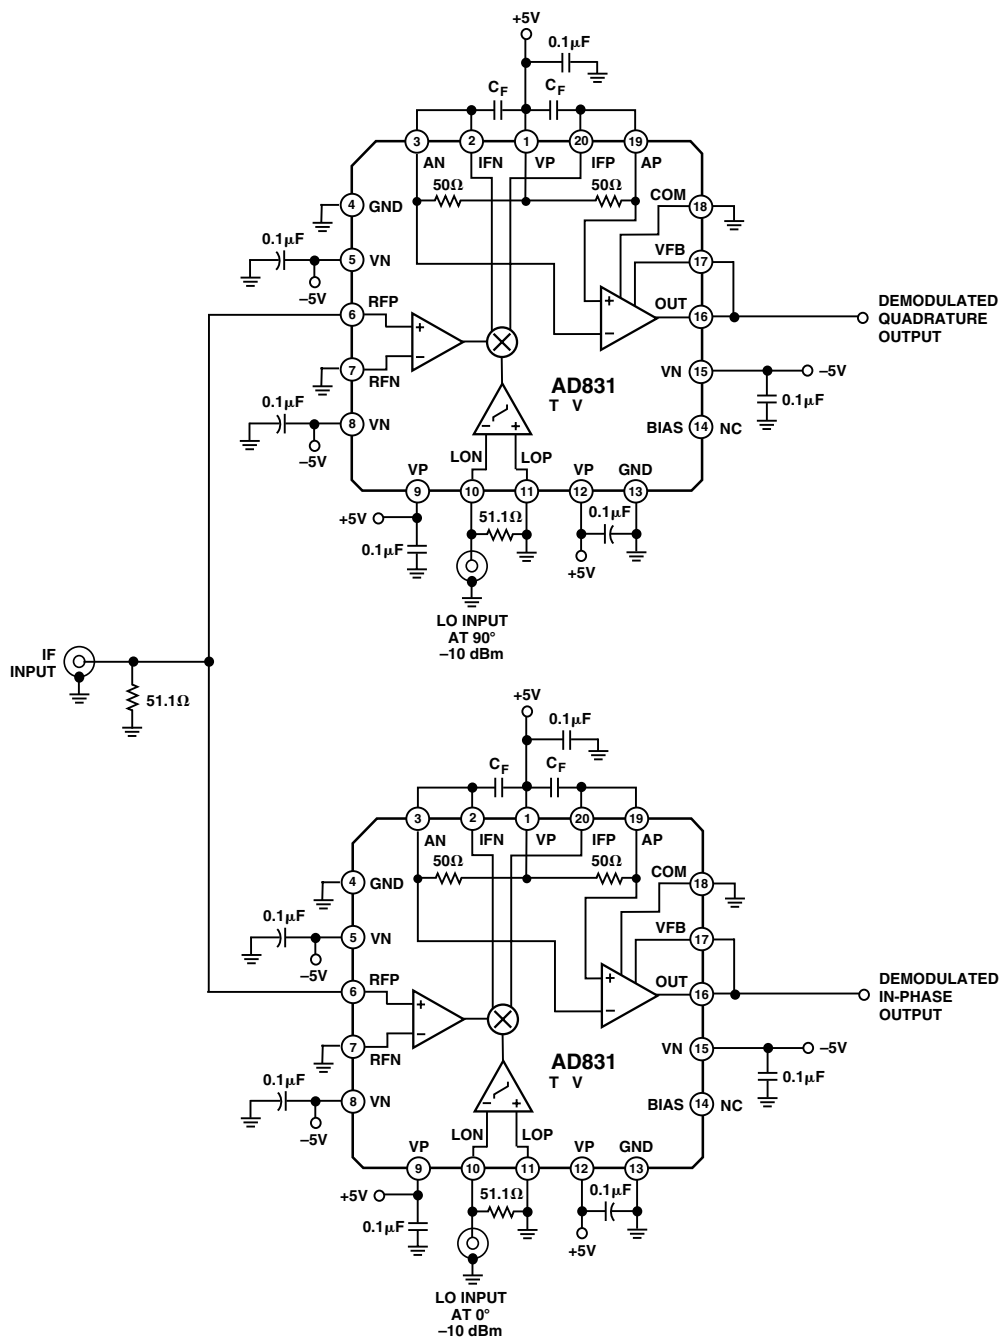

Figure 11. Connections for Quadrature Demodulation
Two AD831 mixers may have their RF inputs connected in parallel and have their LO inputs driven in phase quadrature (Figure 11) to provide demodulated in-phase (I) and quadrature (Q) outputs.